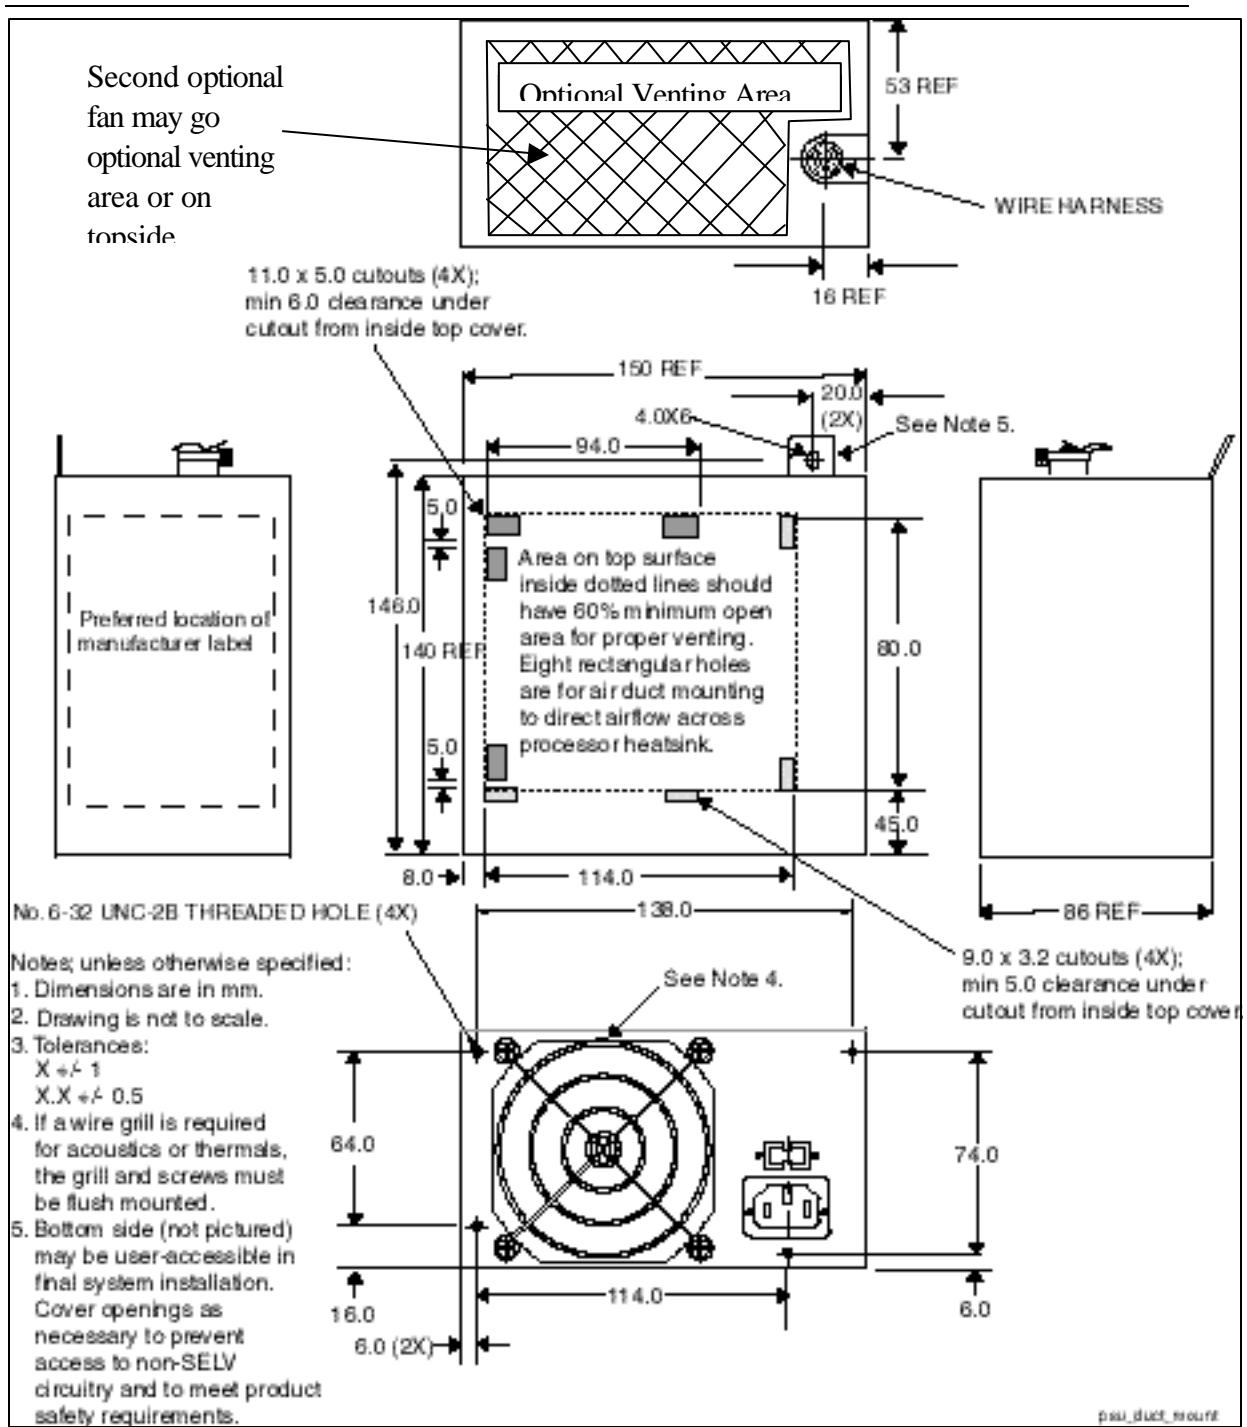

Figure 8. Power Supply Dimensions for Chassis that require top venting
- The venting shown in Figure 8 allows designers to more directly couple the power supply airflow to system components such as the processor or motherboard core, potentially cooling all critical components with a single fan. Both the power supply fan location and direction may vary in this case. The trade-off is usually one of reduced system cost versus narrower design applicability.